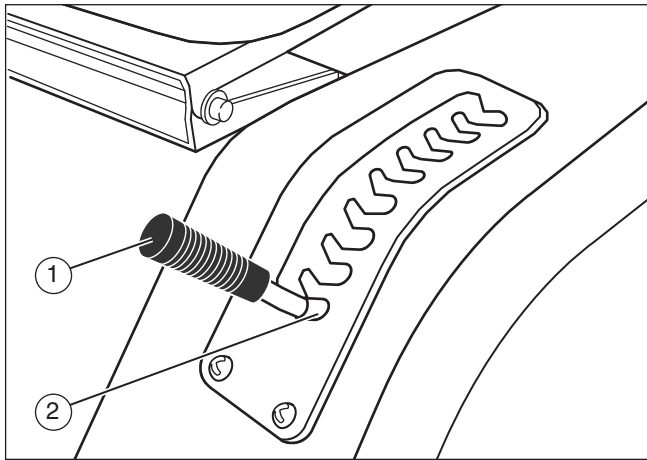
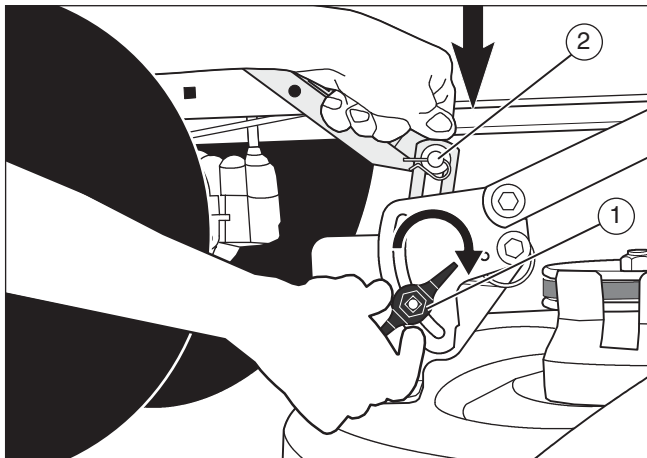

Figure 13
Figure 14
3. Move the lift lever (1) to the lowest cut position (2) (see Figure 13).
4. Loosen the left and right adjuster knobs (1) (see **Figure 14**). Push down on each side of the mower housing. Make sure both sides of the mower housing are setting on a flat surface. Also, make sure the lift links are loose and can easily move up or down.
5. Push down on the lift links (2) and tighten the left and right adjuster knobs. Make sure the adjuster knobs are tight. If necessary, use a wrench to tighten the adjuster knobs.
6. Raise the lift lever (1) (see **Figure 13**).